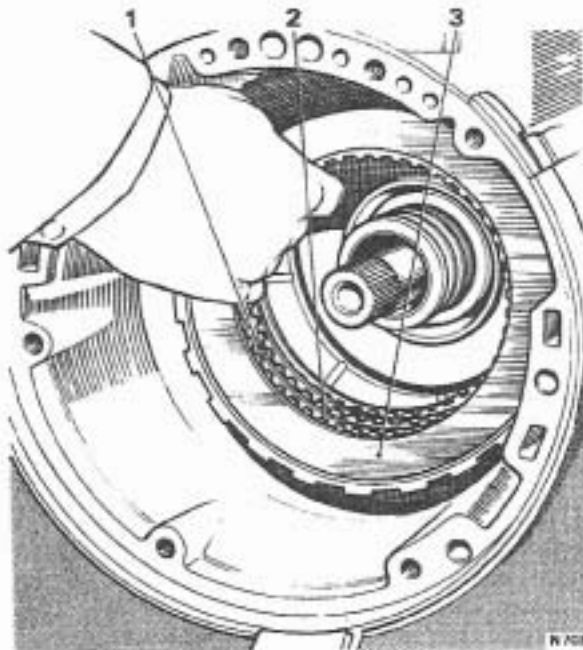

FIG. T289 FITTING THE INTERMEDIATE CLUTCH PLATES
17. Lubricate the three steel and three composition clutch plates with clean transmission fluid then fit the clutch plates. Commence with a steel plate then fit alternate composition and steel plates, finishing with a composition plate (see Fig. T289).